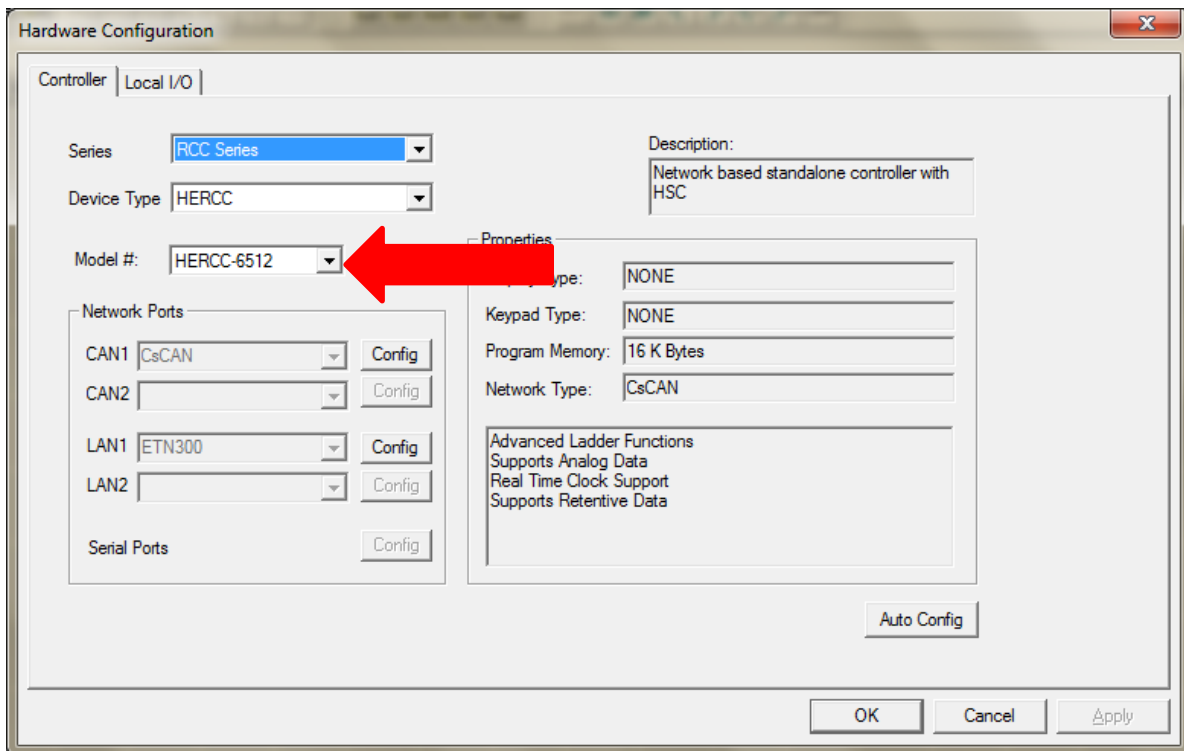

Figure 7.1 - Hardware Configuration Dialog
1. On the main Cscape screen, select the **Controller** menu and its **Hardware Configuration** sub-menu to open the I/O Configuration dialog (Figure 7.1).